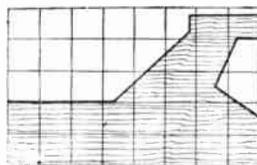

Fig. 4—Half shape of top
Figs. 4, 5 and 6 simply show the patterns for the shaped parts of the cross rails and legs. Allowance must be also made for the extending tenons at the ends. It should be explained that the top rail (B) is  $4\frac{1}{2}$ ins. wide at the centre, and that rail (C) is 2ins. wide.
Each pole should be wound in such a way that, looking at it from its free end, all the turns upon it are in the same direction as the turns upon each other pole, when looking at them from their free ends. This is shown in Fig. 4 and no difficulty should arise if the armature is held in one hand and each pole wound in the same direction with the other.
The ends of the windings should be soldered to the commutator segments in the manner shown in Fig. 4. The commutator is a push fit on the axle, but a little free wire should be left so that it can be rotated slightly in relation to the armature poles in order to obtain the best running position.